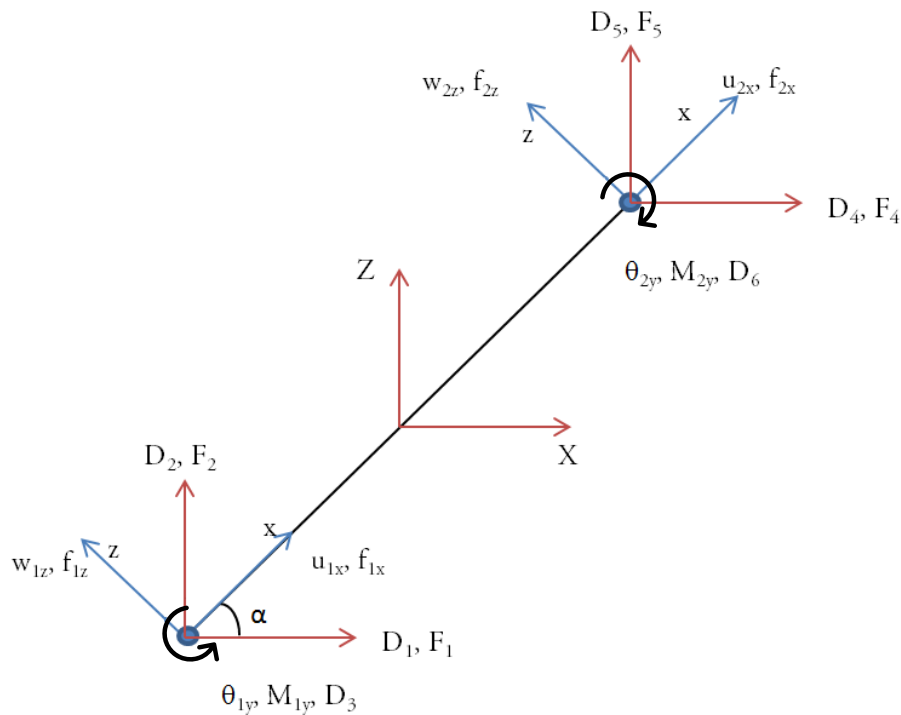

**Figure 1.** A fishing rod and a model of a fishing rod divided into four elements
Your task for this laboratory is to use your knowledge from the lectures in Finite Element Method together with MATLAB to determine the deflection of a fishing rod when a fish is hooked (figure 1). Present your results with a plot of the undeformed and deformed fishing rod plus an addition table of the deflections at the nodes. You can simplify the rod with a beam. The fishing rod is 2 m with a radius of 5 cm. The cross-section of the fishing rod is circular with inertia (I) of  $\frac{\pi r^4}{4}$ . The Young's modulus (E) is assumed to be 100 MPa.